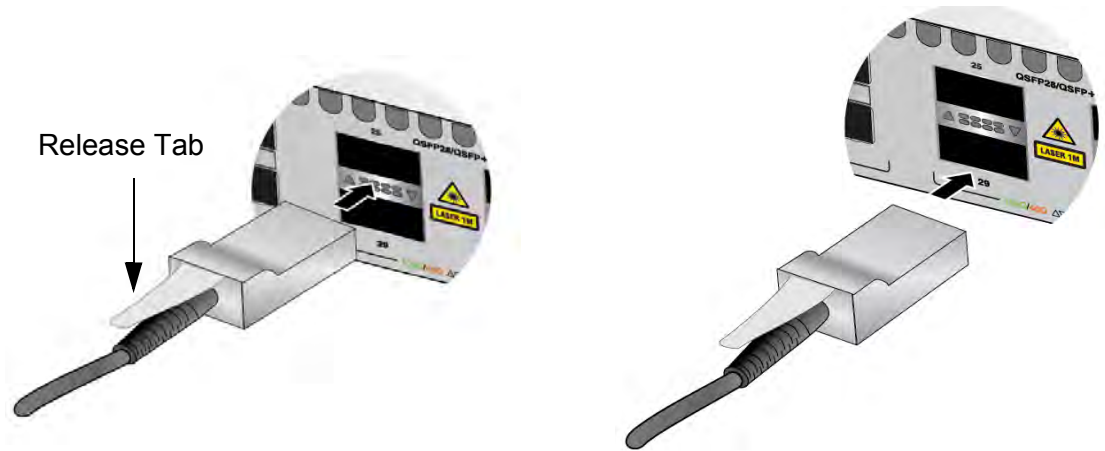

Figure 122. Attaching QSFP+ Cables
- Figure 122 on page 181 shows the orientations for QSFPcU Cables installed in base ports 25 to 37.